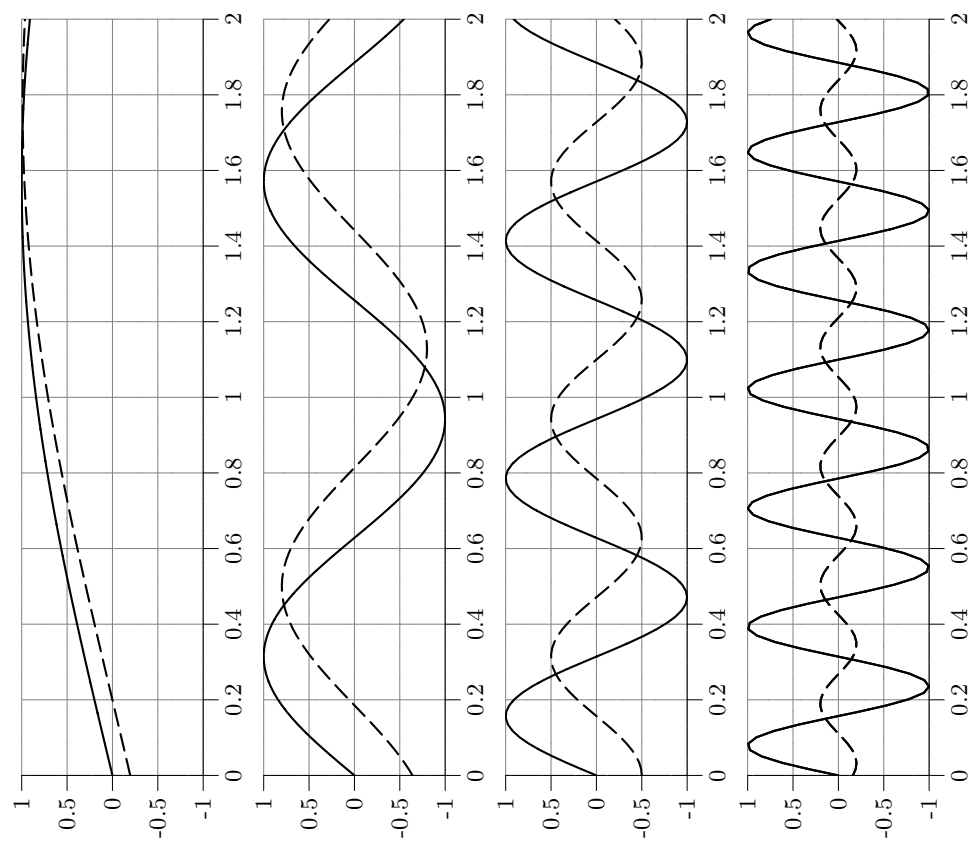

Figure 4.8a.  $u(t) = \sin(\omega t)$  (solid) and  $y(t)$  (dashed).
4.8 A system is described by  $Y(s) = G(s)U(s)$ . Figure 4.8a shows  $u(t) = \sin(\omega t)$  and the corresponding output  $y(t)$  (after all transients have faded away) for the frequencies  $\omega = 1, 5, 10$ , and  $20 \text{ rad/s}$  (from top to bottom).